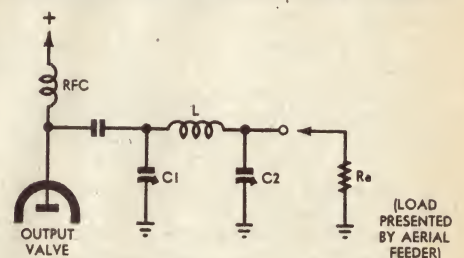

Figure 1: The basic pi-coupler circuit configuration.
In view of the widespread use of the pi-coupler, it is surely disappointing that the established radio textbooks and amateur radio reference manuals generally devote very little space to a discussion of its basic operation. Most simply give its basic circuit configuration, as in figure 1, together with a few basic formulae describing its properties. Small wonder that to many radio amateurs and technicians its operation is still something of a mystery!
To begin, then. As figure 1 shows, the basic pi-coupler consists of a series inductor L, together with two shunt capacitors C1 and C2. Usually both C1 and C2 are made variable, as shown. The load resistance Ra presented by the aerial feeder cable is connected to the network across C2, while the plate or collector of the PA stage connects across C1 via a high-value DC blocking capacitor. An RF choke is used for the PA stage DC return.
It is possible to simplify the circuit of figure 1 by reducing it to the bare essentials as far as its RF operation is concerned. This is shown in figure 2(a), which also represents the way that
Although these design calculations will give specific values for L , C_1 and C_2 , it should be remembered that one rarely has a very precise knowledge of the optimum PA stage load resistance R_p . This combined with the various simplifying assumptions used to arrive at equations (7) and (9) means that it is usually desirable to use variable capacitors for both C_1 and C_2 , as shown in figure 1.